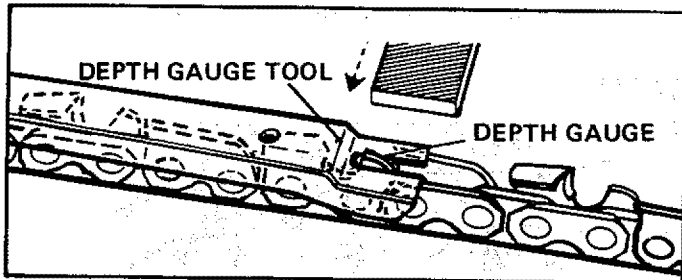

Figure 41
- a.) Place depth gauge (Catalog No. 71-36557) tool over each cutter depth gauge. Figure 41.
- c.) Maintain rounded front corner of depth gauge with a flat file. Figure 41.